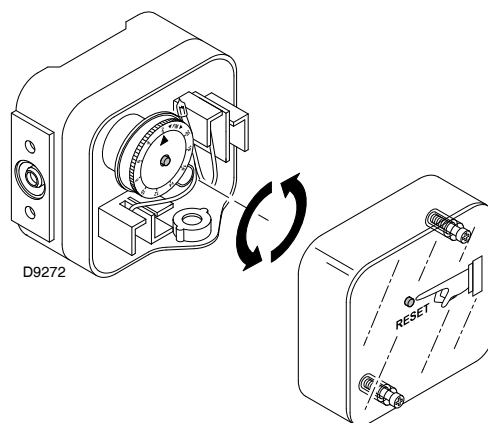

Fig. 45
- Adjust the high gas pressure switch to the upper limit of the scale (Fig. 45).
Adjust the maximum gas pressure switch after having performed all other burner adjustments with the maximum gas pressure switch set to the end of the scale (Fig. 45).